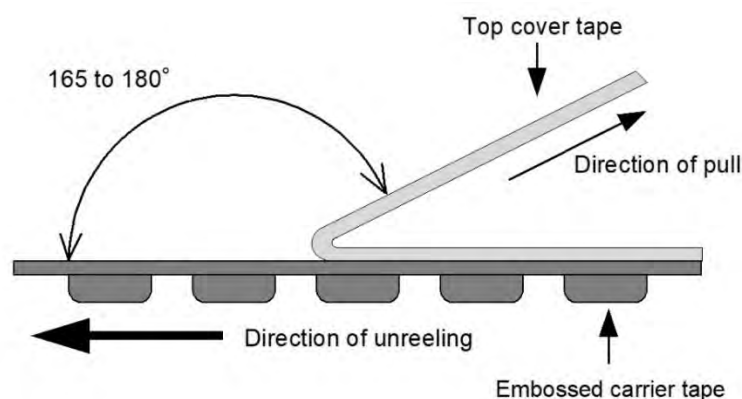

Fig.1
- Peel Force of Top Cover Tape ... Unless otherwise specified, the peel force of top cover tape shall be 0.1 to 0.7 N { 10.2 to 71.4 gf } when the top cover tape is pulled at a speed of 300 mm/min with the angle between the tape during peel and the direction of unreeling maintained at 165 to 180° as illustrated in Fig.1.